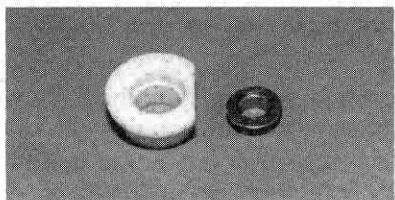

Fig. 88
- Fig. 88** Install the bushing or ball bearing into the adaptor.